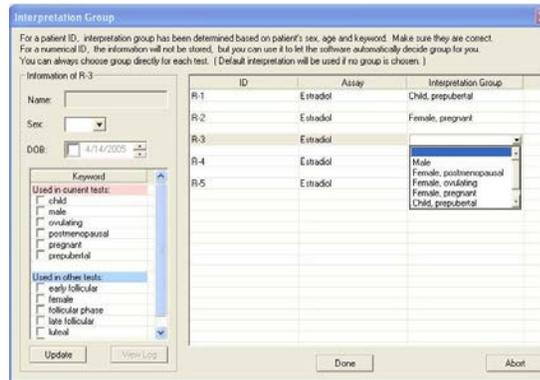

Figure 5.1-1 Interpretation Group
- If defined Special Interpretation Groups are in the Assay(s) being run, the Interpretation Group window (**Figure 5.1-1 Interpretation Group**) is displayed, otherwise the Work Schedule (**Figure 5.1-2 Work Scheduler**) is displayed. Using Special Groups Interpretation, unique normal ranges are used for different “group” definitions.